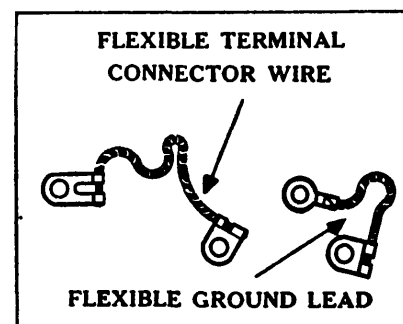

Fig. 12
4. Inspect both the flexible terminal connector wire and the flexible ground lead for signs of broken strands (see Fig. 12). Our engineers recommend that these two wires be replaced with new, genuine Delco-Remy (or Auto-Lite if an Auto-Lite unit) wires, each time a distributor is overhauled.